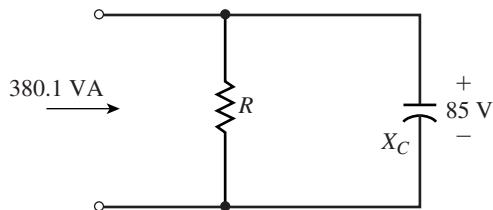

FIGURE 17-37
10. For Figure 17-37, $X_C = 42.5 \Omega$. Find R , P , and Q .